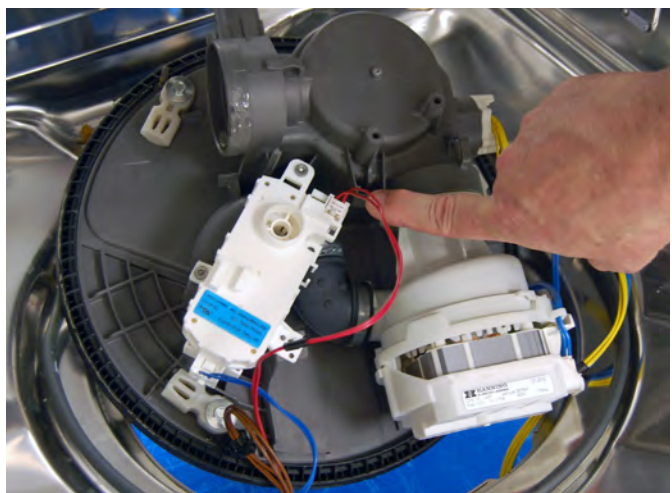

Figure 15
10. Unplug the diverter motor harness, see figure 15.